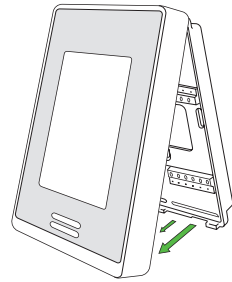

Figure 1
2. Open unit by pulling on the bottom of the Room Controller (Figure 1).